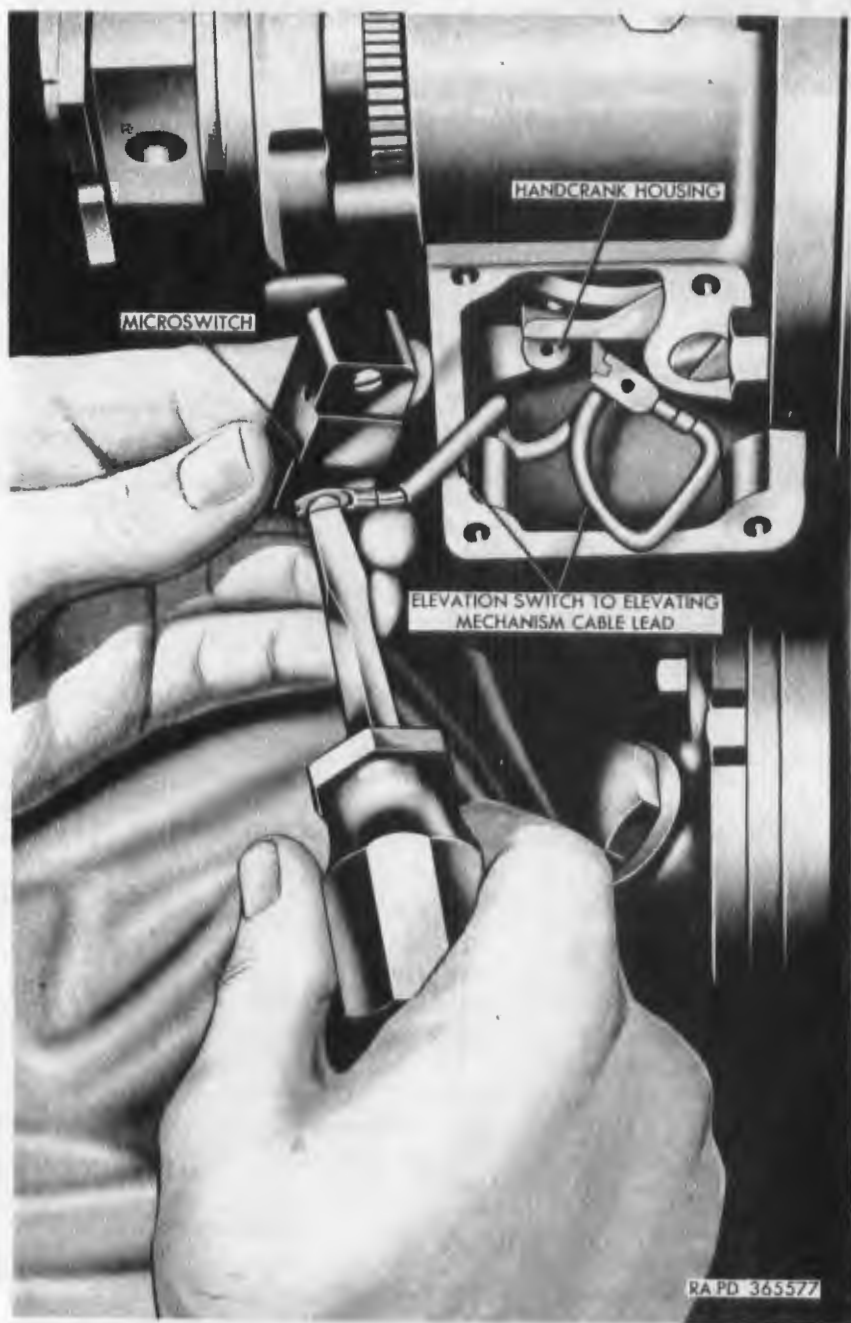

Figure 357. Replacing microswitch—elevation side.
- (c) Disconnect the microswitch from the elevation switch to elevating mechanism cable leads (fig. 357) and install cable leads on new switch.